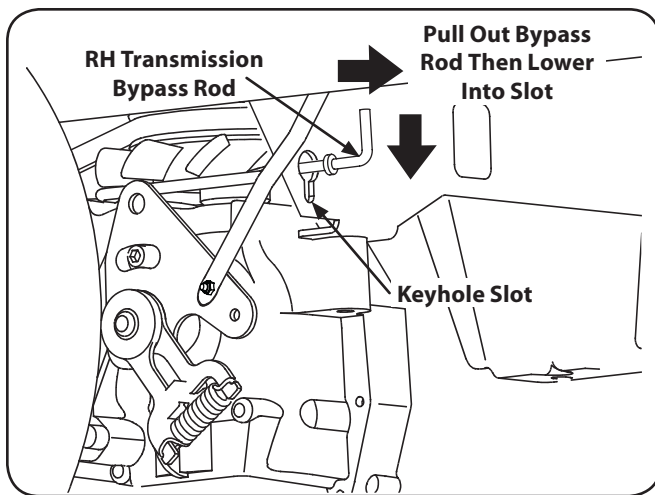

Figure 6-3
1. From just in front of the two rear tires, locate the transmission bypass rods. Refer to Fig. 6-3.